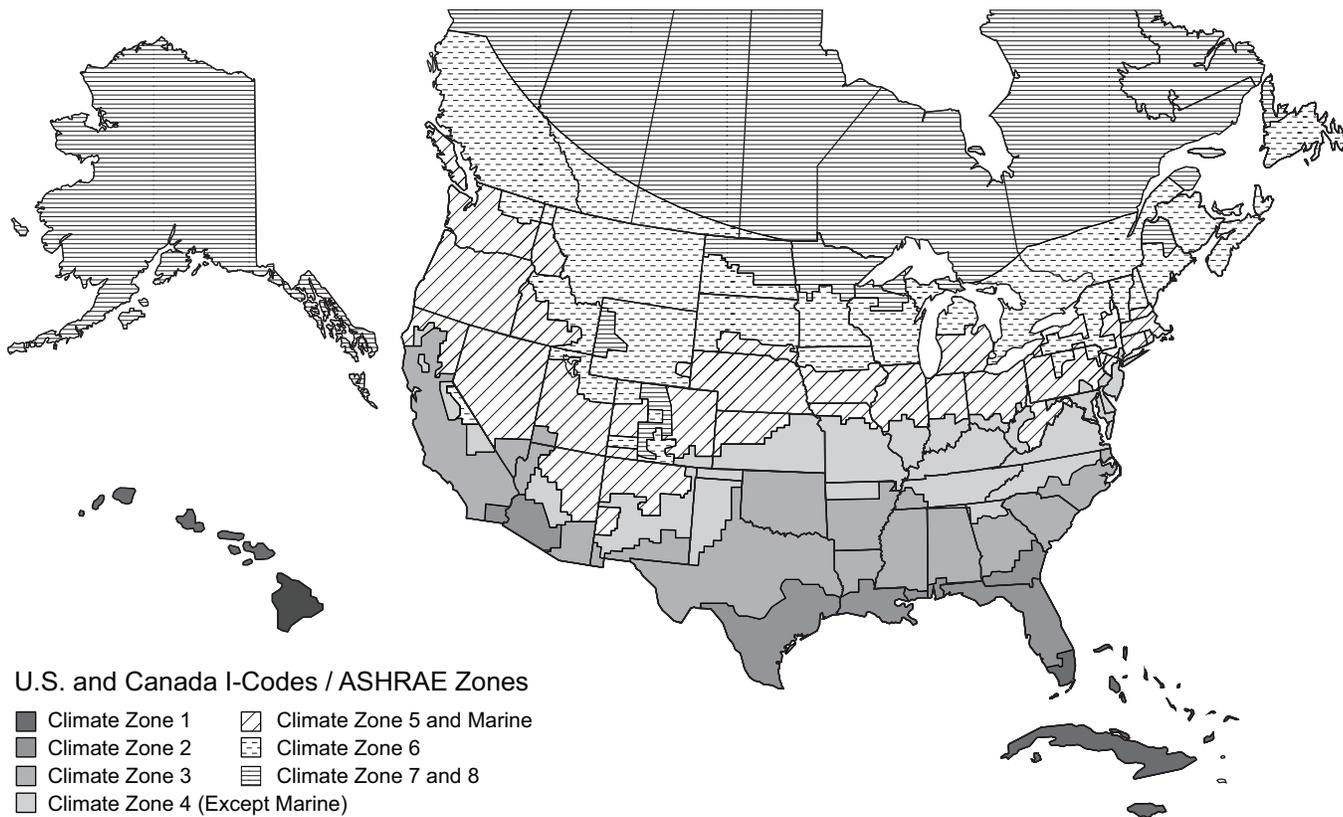

Fig. 77 – U.S. and Canada Climate Zones
- a. Refer to Fig. 77 for map of U.S. and Canada climate zones.